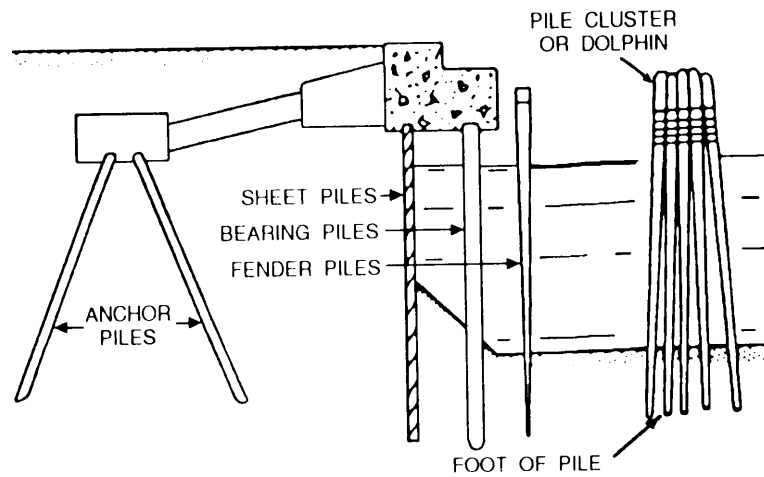

Figure 12-75.—Typical uses of piles driven in a waterfront structure.
8. **Anchor piles.** An anchor pile may be used to anchor bulkheads, retaining walls, and guy wires. They resist tension or uplift loads (fig. 12-75).
9. **Dolphin piles.** As shown in figure 12-75, dolphin piles are a group of piles driven close together in water and tied together so that the group will withstand lateral forces, such as boats and other floating objects.
10. **Fender piles.** As shown in figure 12-75, fender piles are driven in front of a structure to protect it from damage.
11. **Foot of pile.** As shown in figure 12-75, the foot of a pile is the lower end of a driven pile, which is the smaller end.